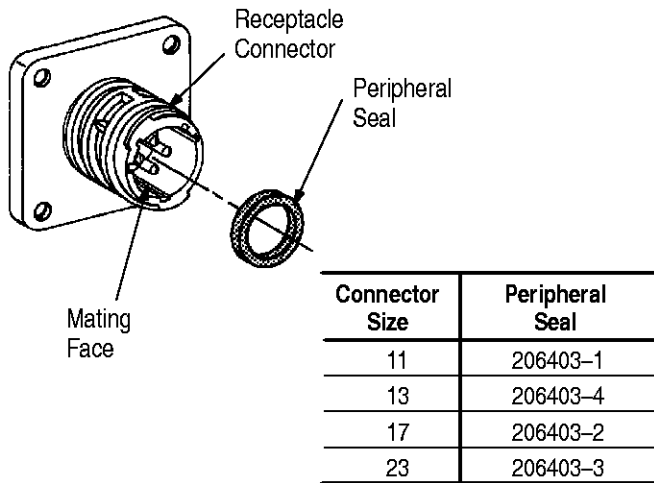

Figure 7
1. Refer to Figure 7 and select the appropriate peripheral seal according to the connector size.